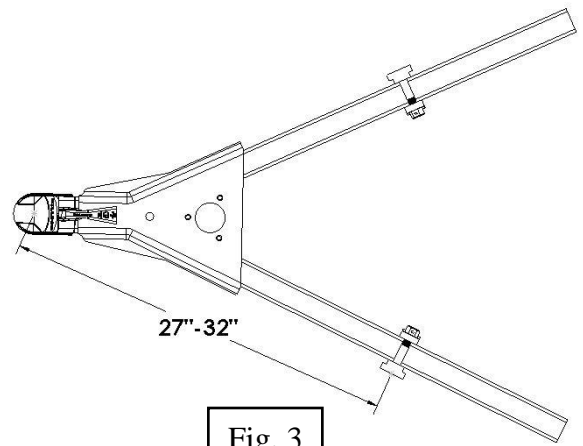
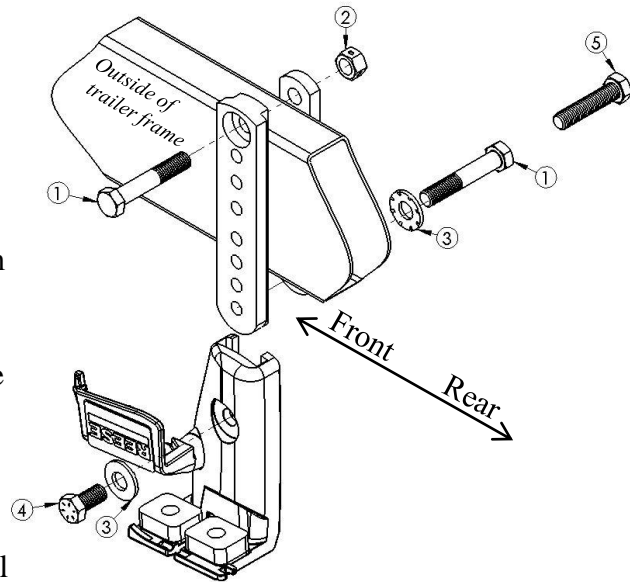

Fig. 3
Fig. 4
1. Use the tape measure to locate a point between 27"-32" along the A-Frame from the center of the coupler. Mark this location with a pencil on both sides of the A-Frame (See Fig. 3)
2. Insert a 3-1/2" long 5/8" bolt (1) through the large hole in the **T-Bar** and single hole in the **Clamping Bar**.
3. Secure with a 5/8" lock nut (2) and hand tighten.
4. Slide the **T-Bar** and **Clamping Bar** over the frame where the mark is located from step 1. The **T-Bar** must be located on the outside of the A-Frame with the large hole facing outward (See Fig. 4). Allow 1" of clearance on either side of the **T-Bar**.
5. Insert a second 5/8" bolt *from the inside* through a conical washer and the **Clamping Bar** and thread into the **T-Bar**. Use the highest holes not obstructed by the bottom of the frame (See Fig. 4).